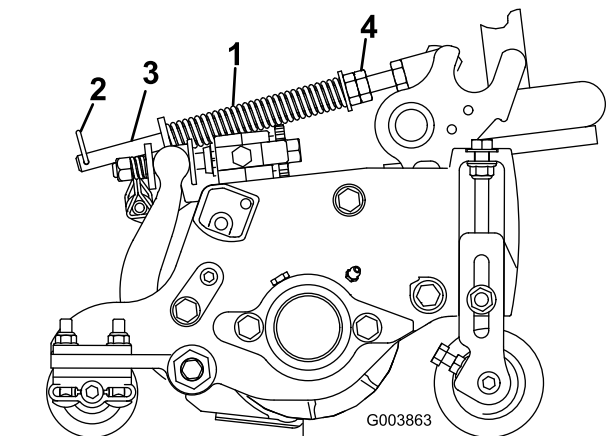

Figure 17
1. Make sure that the hairpin cotter is installed in the rear hole in the spring rod (Figure 17).
2. Tighten the hex nuts on the front end of the spring rod until the compressed length of the spring is 15.9 cm (6.25 inches) (Figure 17).
Note: If the cutting unit must be removed from the machine, move the hairpin cotter to the front hole in the spring rod (Figure 17). Make sure to move the hairpin cotter back to the rear hole in the spring rod after the cutting unit is installed on the machine again.